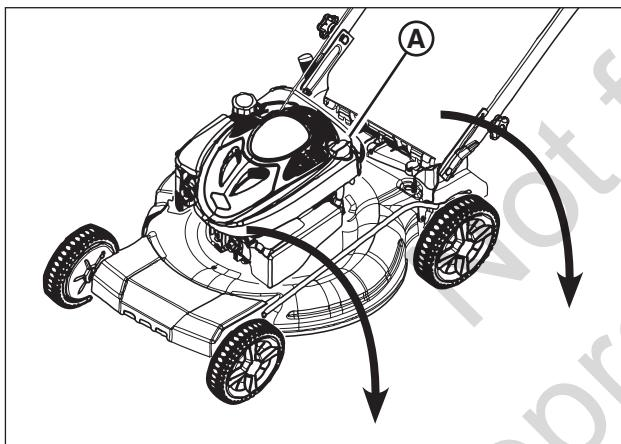

Figure 15: Draining the engine oil
2. Remove the dipstick (**A**, Figure 15), then turn the mower on its side. Allow the oil to drain from the oil fill tube into an appropriate container. Dispose of used oil properly.